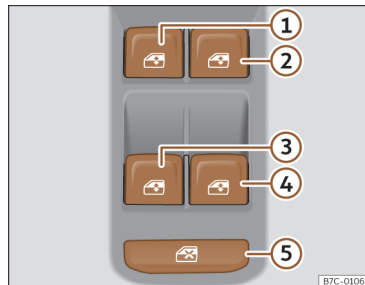

Fig. 81 Detail of the driver door: controls for the windows.
The safety control >>> **Fig. 81** ⑤ on the driver door can be used to disable the electric window buttons on the rear doors.